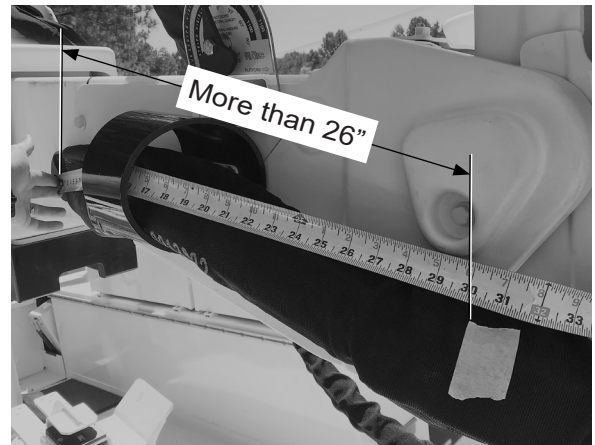

Figure 5 — Measuring Sock with Excess Length
- If the length is more than 26" (refer to Figure 5), proceed to step 6.